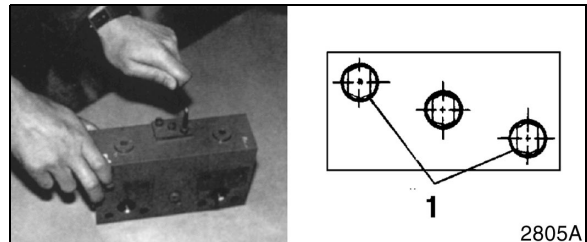

Figure 51
6. Remove two hex bolts and remove plate. See Figure 51.